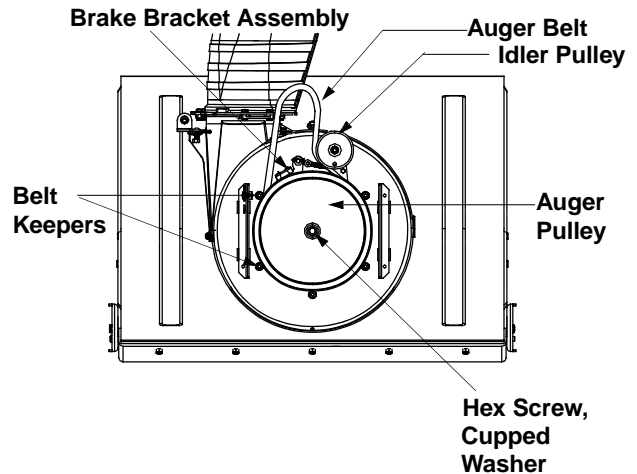

Figure 22.
- Using a 1/2" wrench, remove the hex screw and cupped washer from the center of the pulley on the auger housing. Lift the brake bracket assembly out of the pulley groove and remove the pulley. See Figure 22. Be careful not to lose the key.